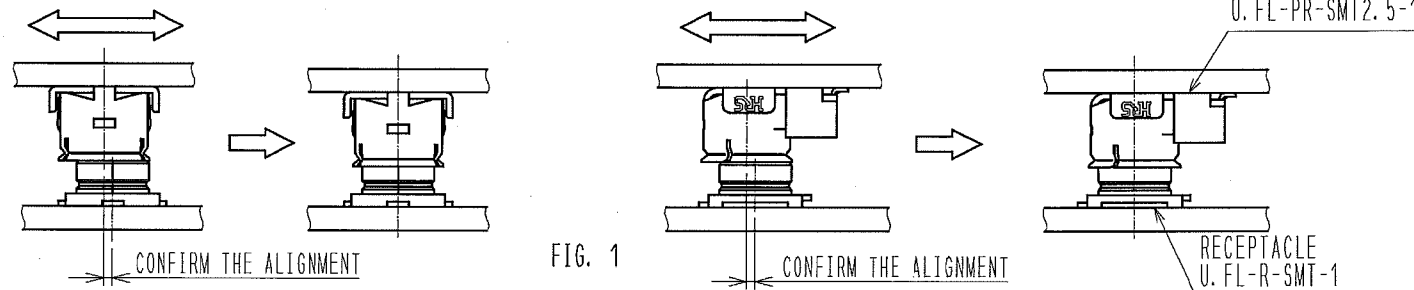

FIG. 1
1) ALIGN MOUNT PLUG (U.FL-PR-SMT2.5-1) AND RECEPTACLE (U.FL-R-SMT-1) BY SLIGHT TOUCH AS SHOWN ON FIG. 1.